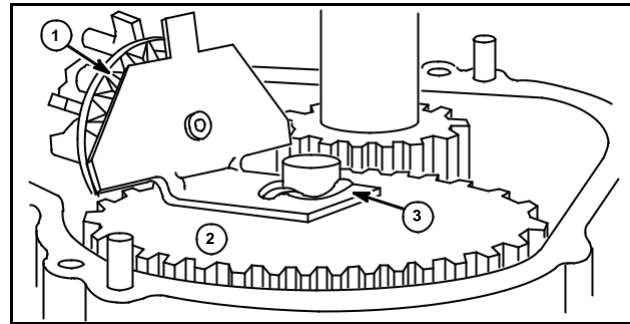

Fig. 15
NOTE: On Model Series 100900, 130700, 131700, and 130900 a spring washer (3) is used on cam gear (2) as shown in Fig. 15. Model Series 130780, 130980, 131780, and 132980 do not use a spring washer.